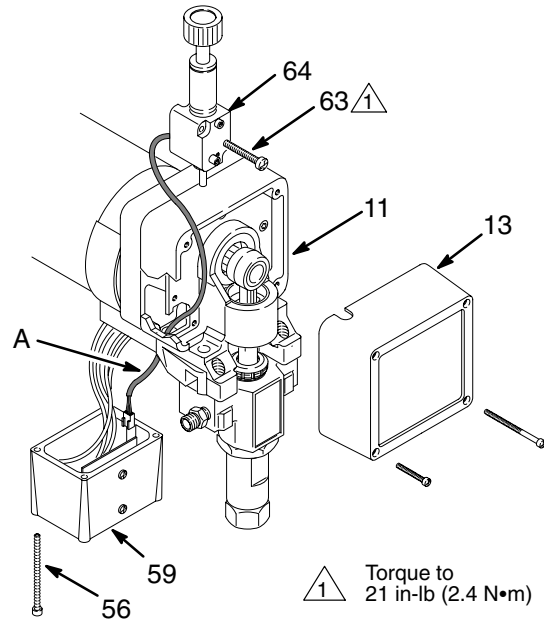

Fig. 31
**NOTE:** See Fig. 31 for this procedure.
**NOTE:** The pressure control (64) cannot be repaired or adjusted. If it has malfunctioned, replace it.
1. Remove the front cover (13). Remove the screws (56). Lower the junction box (59).
2. Disconnect the harness connector (A) from the motor start board (47).
3. Remove the screws (63). Pull forward on the pressure adjusting knob and tip the pressure control (64) forward and up to detach it from the drive housing (11).
4. Guide the harness (A) through the motor and drive housing and remove the pressure control.
6. Install the new pressure control. Tip the pressure control down and back into the drive housing (11). Do not pinch or damage the harness.
7. Loosely install the screws (63) and then torque them to 21 in-lb (2.4 N•m).
8. Install the front cover (13). Connect the harness (A) to the motor start board (47).